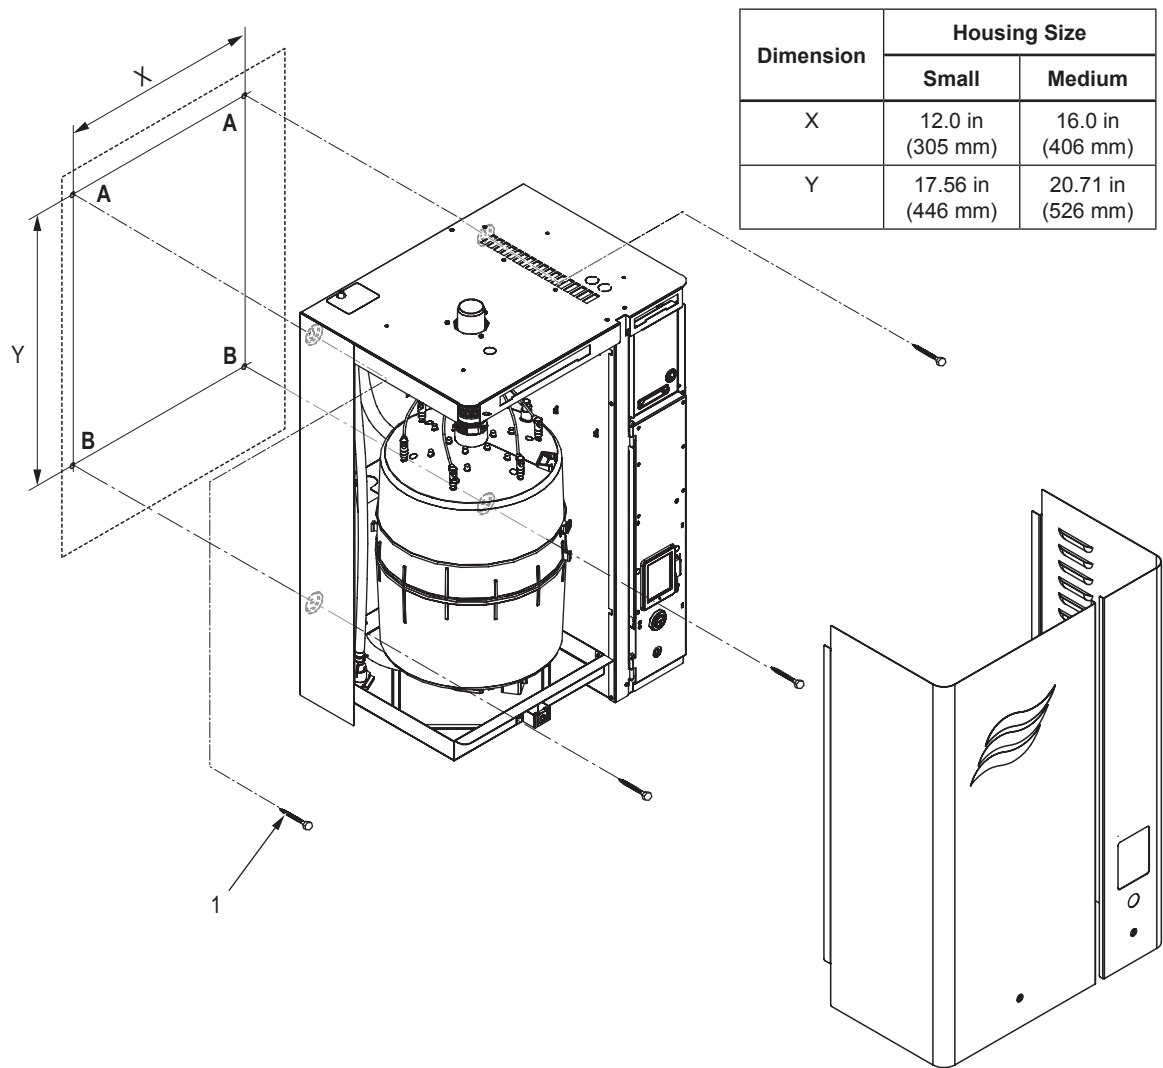
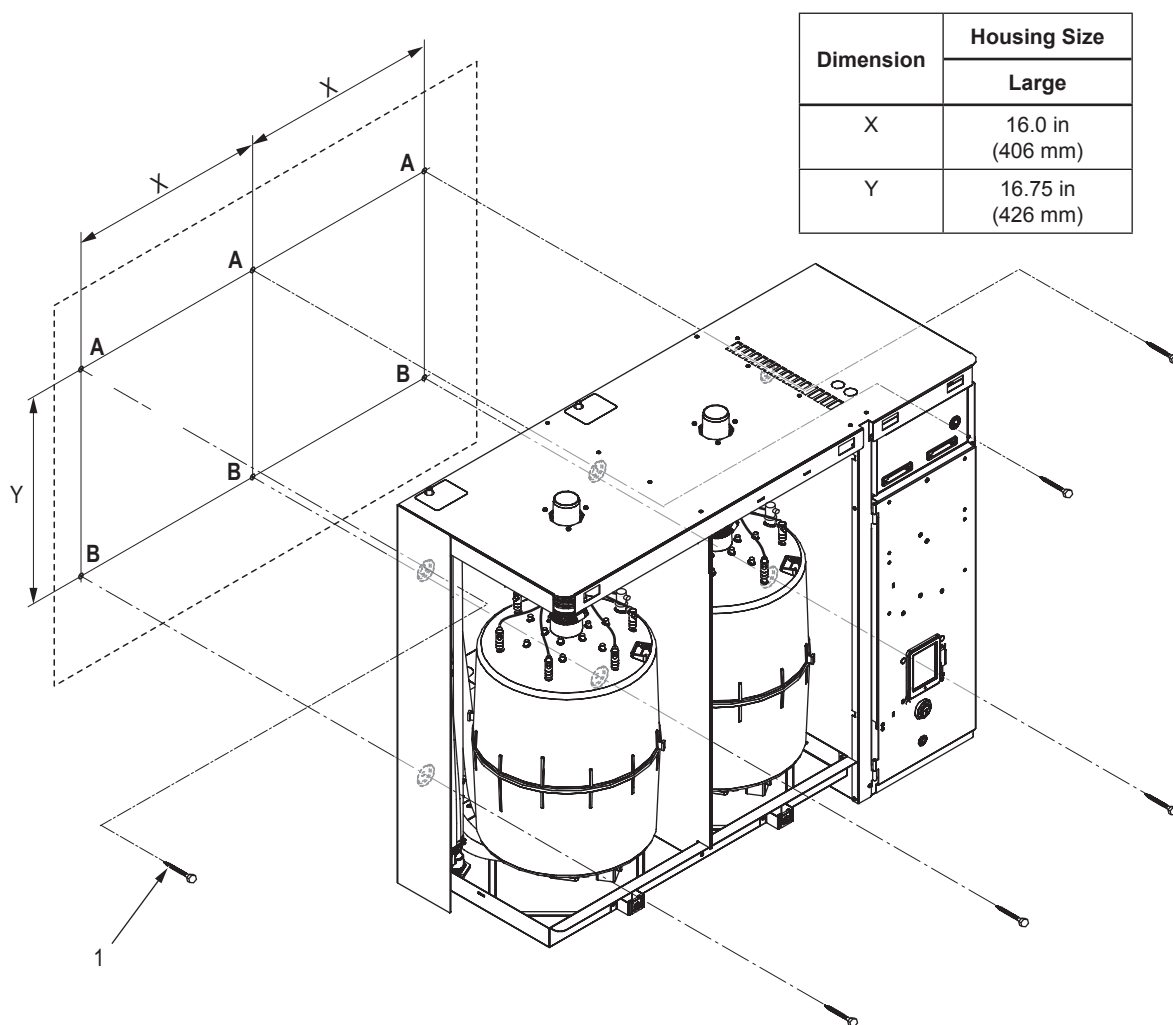

Figure 7: Standard Mounting, Small or Medium Housing
Figure 8: Standard Mounting, Large Housing
- 1. Locate 2×4 wooden studs or equivalent support in the mounting surface, and mark the attachment points “A” and “B” at the desired position with the help of a level. For small or medium housing refer to *Figure 7*. For large housing refer to *Figure 8 on page 23*.